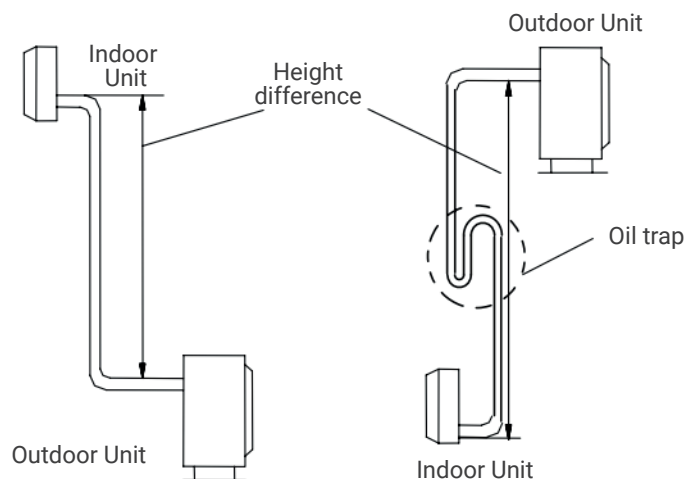

Fig.3
- If the installation position of the outdoor unit is higher than indoor unit and the tubing is longer than 10m, added a oil trap on the gas tubing for every 8m.(Fig 3)